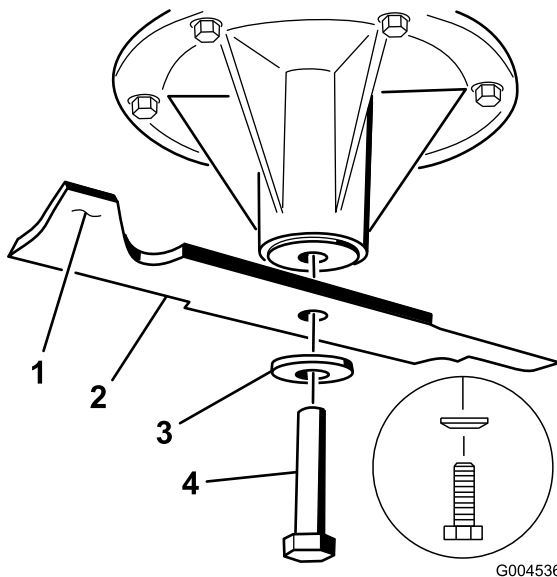

Figure 80
1. Install the blade onto the spindle shaft (Figure 80).
2. Install the spring disk and blade bolt (Figure 80).
Note: The spring-disk cone must be installed toward the bolt head (Figure 80).